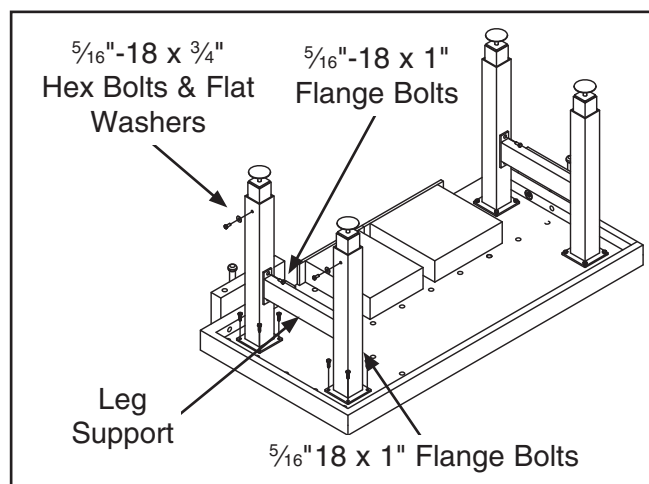

Figure 7. Installing the legs.
10. Slide the lower legs into the upper legs, then secure them together with the $\frac{5}{16}$ "-18 x $\frac{3}{4}$ " hex bolts and flat washers, as shown in **Figure 7**.
11. Attach the leg supports to the leg assemblies with the $\frac{5}{16}$ "-18 x 1" flange bolts, as shown in **Figure 7**, then secure the leg assemblies to the workbench top with the $\frac{5}{16}$ "-18 x 1" flange bolts.